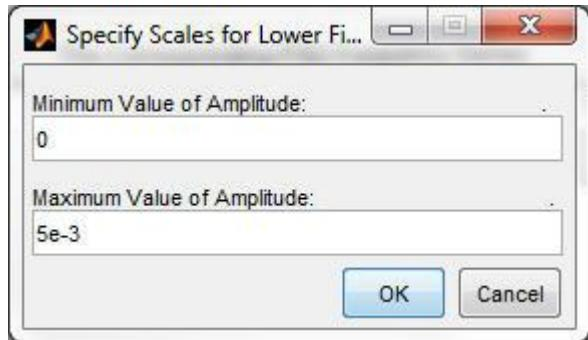

Figure 5-19. An example of rescaling the PSD amplitude.
Step 2: Enter the desired minimum and maximum values for the display range of the vertical axis. An example of entered values are shown in Figure 5-19.